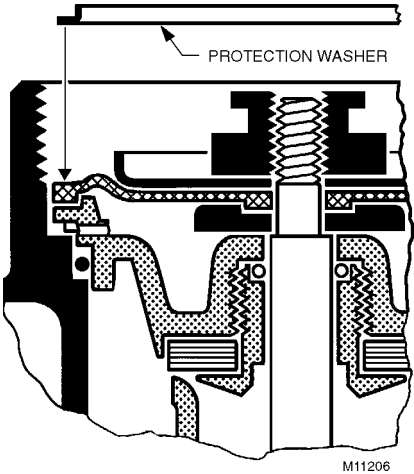

Fig. 6. Replacing protection washer.
- 11 Replace the protection washer with the lip up (away from the valve body). See Fig. 6.